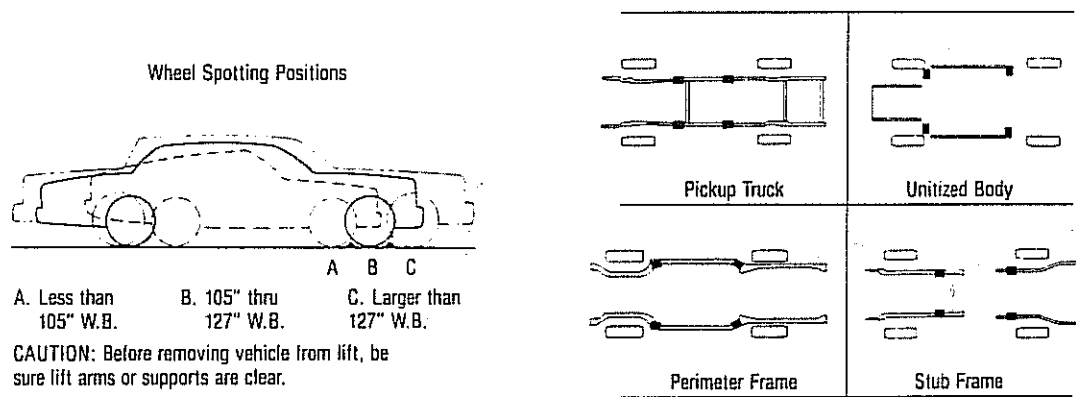

FIG. 9
2. Spot vehicle over lift with left front wheel in proper spotting dish position, Fig. 9.